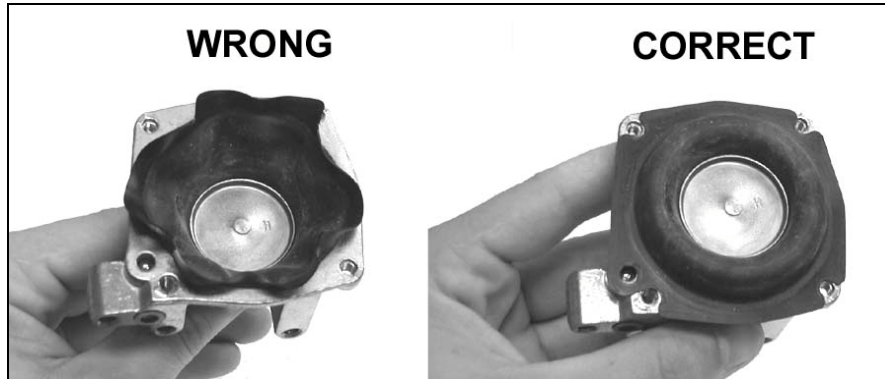

Figure 17
**TIP:** To make reassembling the diaphragm easier, push the diaphragm arm into the housing and form the diaphragm into a "mushroom" shape (Figure 17). Then position the diaphragm over the bolt holes and vacuum port. Hold the diaphragm in that position with your fingers while inserting the spring, cover, and bolts to avoid disturbing the position of the diaphragm.